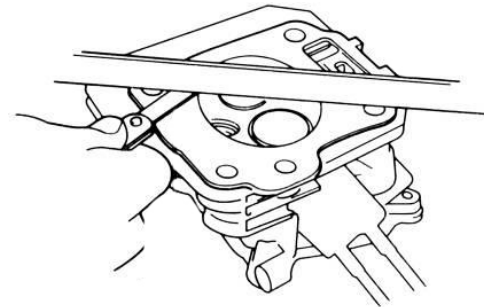

Figure 4-17: Check Cylinder Head for Warping
3. See Figure 4-17. Check the cylinder head for warping with a straight edge and a feeler gauge.